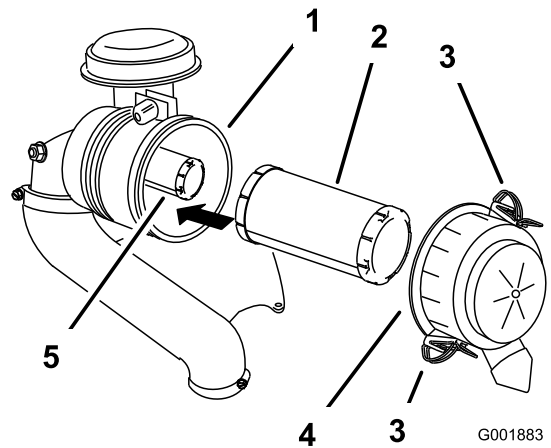

Figure 51
5. Gently slide the primary filter out of the air-cleaner body (Figure 51).
3. Release the latches on the air cleaner and pull the air-cleaner cover off the air-cleaner body (Figure 51).
2. If you are replacing the inner filter, carefully slide it into the filter body (Figure 51).
- Carefully slide the primary filter over the safety filter (Figure 51).
- Install the air-cleaner cover and secure the latches (Figure 51).